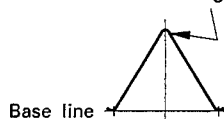

Fig. 9
3. Feed in a weak signal to Ⓔ from the genescope. Adjust T201 for maximum gain and the waveform indicated in Fig. 9. If the center of the waveform cannot be lined up on the marker, adjust the right/left balance.